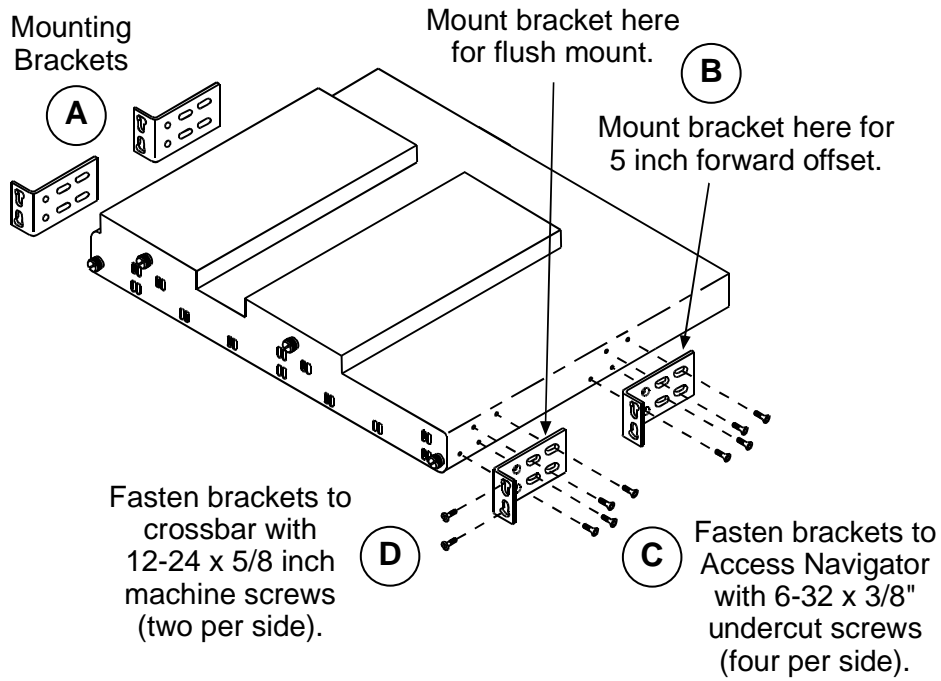

Figure 5-8. Bracket Installation
1. Open bag containing the universal rack mounting kit and select the following items (see A in Figure 5-8 on page 5-14):
2. Position mounting brackets for required flush mount or 5-inch forward offset with respect to front rails of equipment rack (see B in Figure 5-8).
4. Attach mounting brackets to each side of Access Navigator using the mounting screws removed in previous step (see C in Figure 5-8).
2. Secure mounting brackets to crossbar using 12-24 × 5/8inch mounting screws (see D in Figure 5-8 on page 5-14).